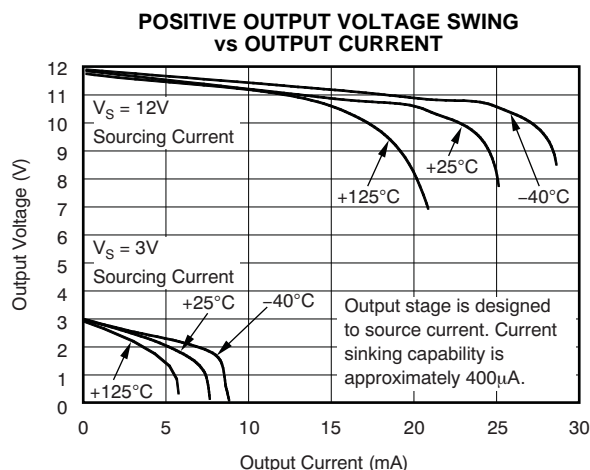

Figure 8.
(1) Offset is extrapolated from measurements of the output at 20mV and 100mV  $V_{SENSE}$ .
(2) Total output error includes effects of gain error and  $V_{OS}$ .
(3) Linearity is best fit to a straight line.
(4) For details on this region of operation, see the Accuracy Variations section in the Applications Information.
(5) See Typical Characteristic curve *Positive Output Voltage Swing vs Output Current* (Figure 8).
(6) Specified by design; not production tested.